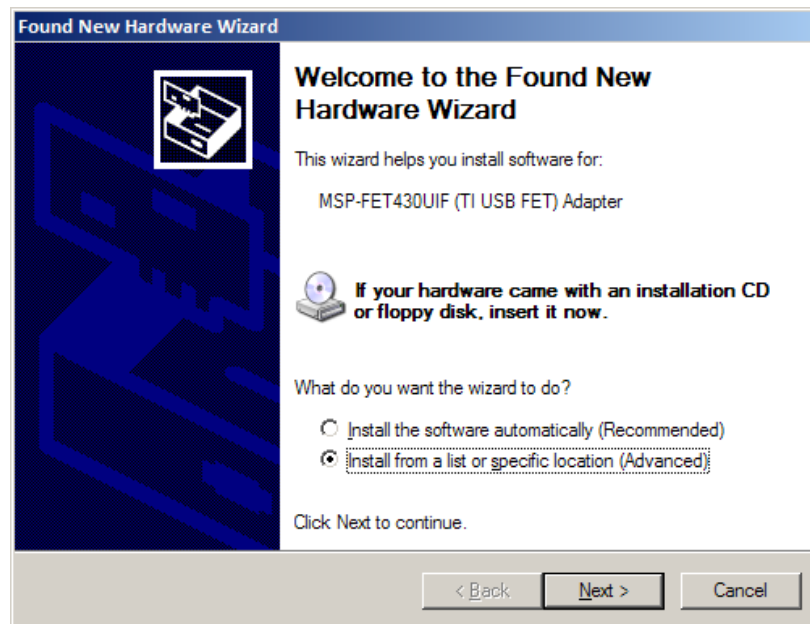

Figure 7. Hardware Wizard
5. Select “**Install from a list or specific location [Advanced]**” (Figure 7).